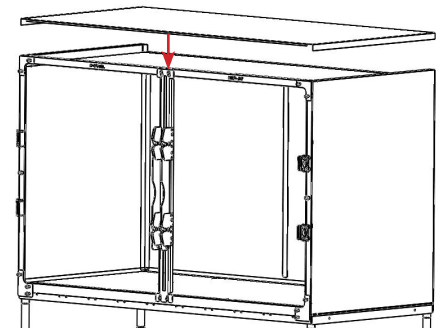

FIGURE 2.63 - Top Panel Installation
**STEP 16:** Align the front flange with the face of the cage frame, behind the trim plates and hardware. Set the top panel down onto the cage and push the front flange against the cage frame. See FIGURE 2.63